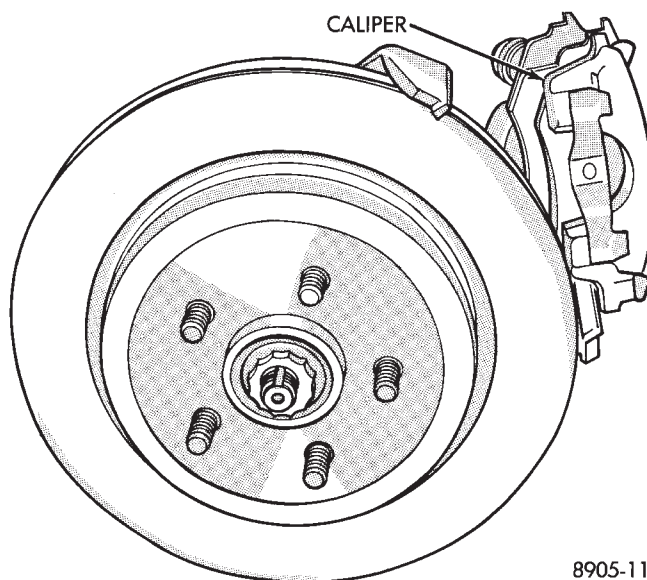

Fig. 3 Removing Caliper
- (4) Lift caliper away from adapter rails (Fig. 3).